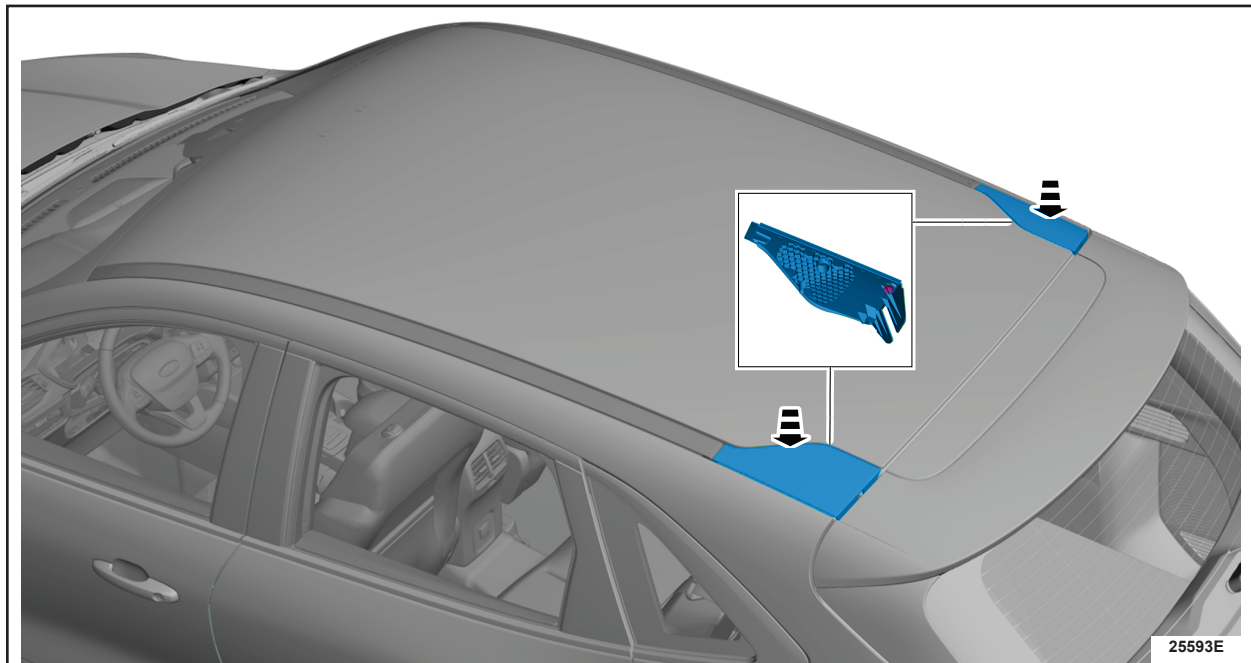

FIGURE 8
9. Install both liftgate hinge covers. Fully engage the liftgate hinge cover and feel for the tactile feedback of full engagement (Click/ Snap feel). See Figure 8.